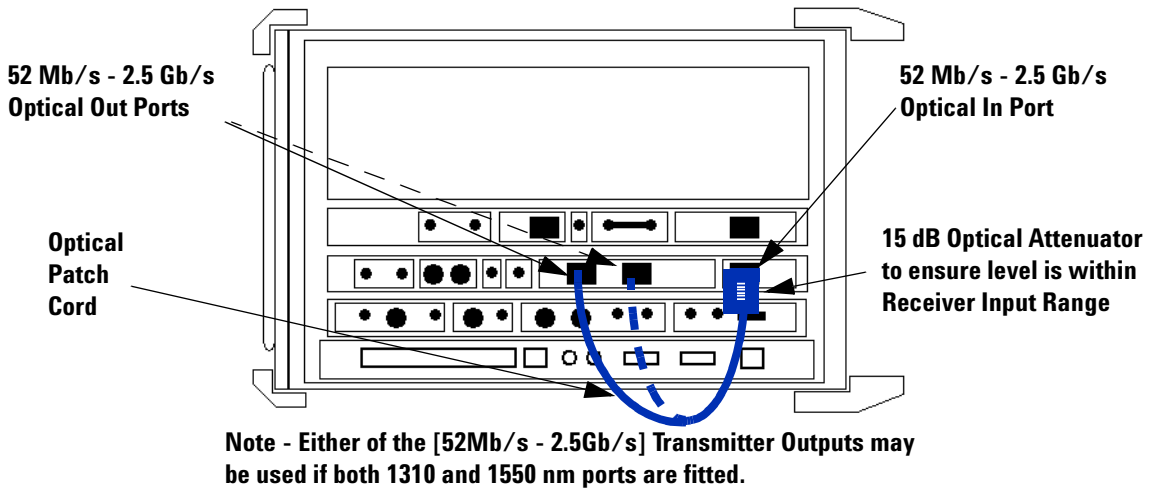

Figure 4 2.5 Gb/s Loopback Connection
- 12 Change/make the following Optical loopback connection to check the 2.5 Gb/s interface as shown in Figure 4.